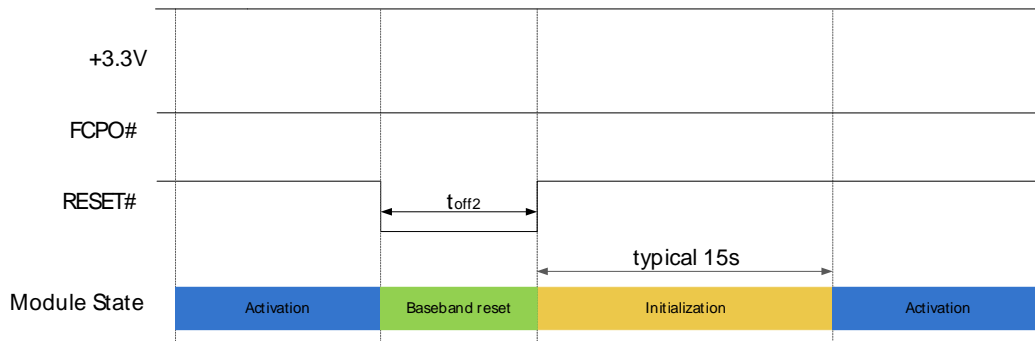

Figure 10. Reset timing 1st
- Reset timing 1st in Figure 10, PMU of module internal will be off in reset sequence, recommend using in module recovery;